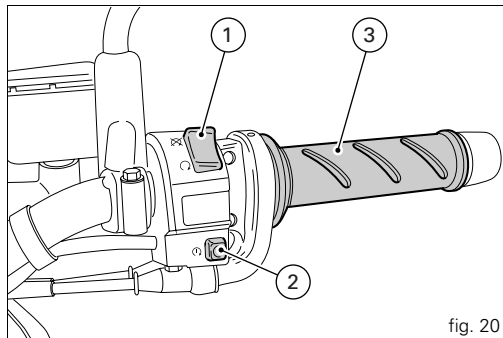

fig. 20
- 1) if the ECU recognises the code, the IMMO light (3, fig. 5) on the instrument panel will flash briefly. This means that the immobilizer system has recognised the key code and enabled engine ignition. When you press the  engine start button (2, fig. 20), the engine will start up;
Right-hand handlebar switch (fig. 20)
Throttle twistgrip (fig. 20)